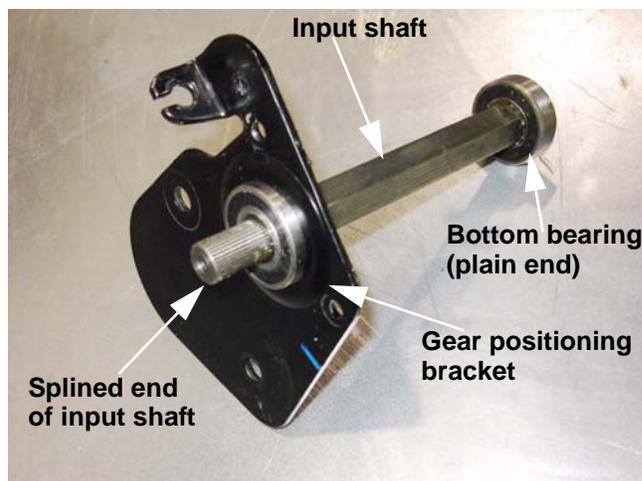

Figure 5.59
10. The Input shaft is carried by two bearings. See Figure 5.59.